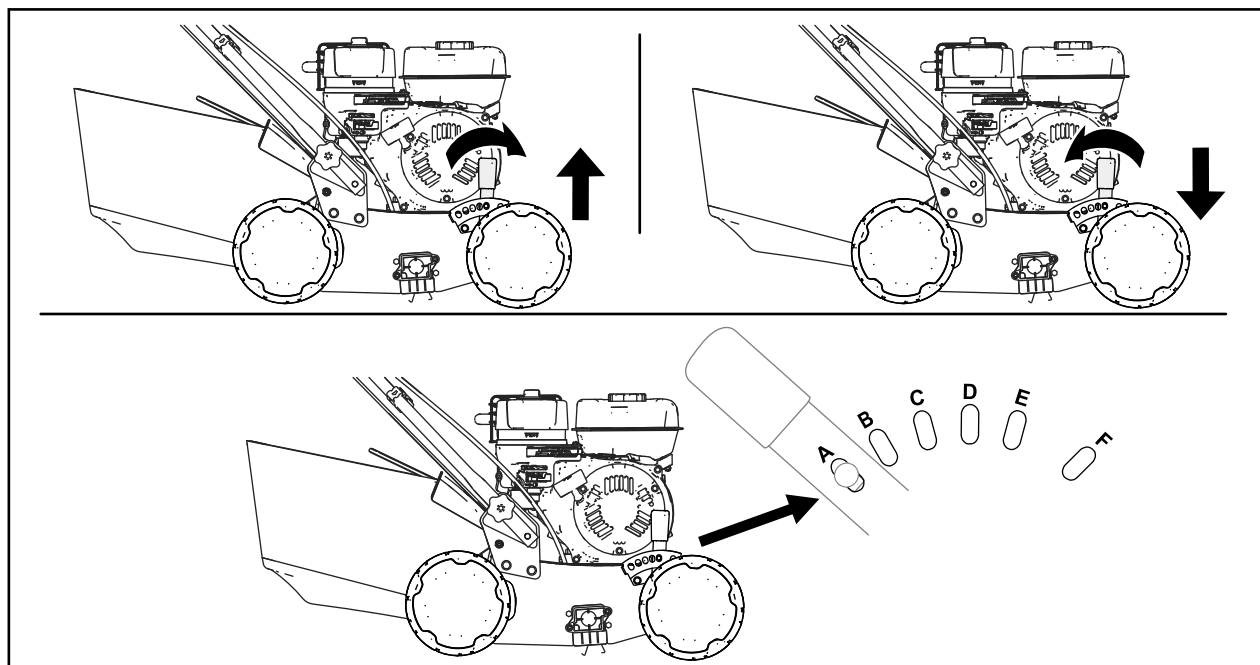

Figure 11
4. To adjust the max depth of cut, adjust the depth-of-cut lever position by pushing it in toward the machine and moving it to a different slot (Figure 11).
- The depth of cut varies depending on which shaft assembly you have installed; refer to Figure 11 and the following table.